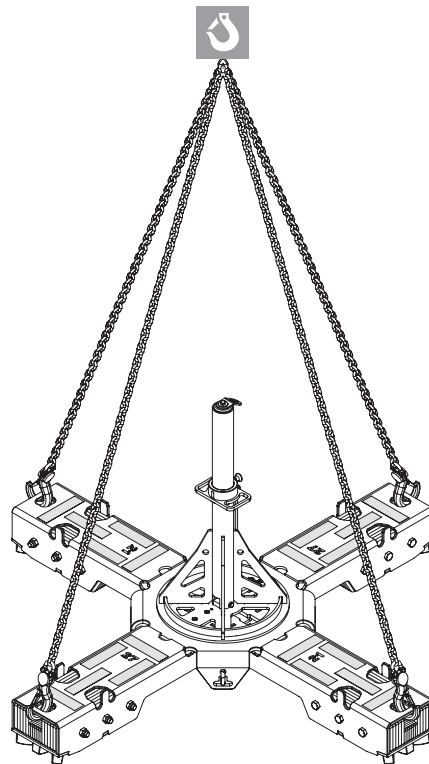

Fig. B4.04
1. Hook the four-sling lifting gear onto the transport lugs (3.4) of the SKY-ANCHOR UNIVERSAL. (Fig. B4.04)